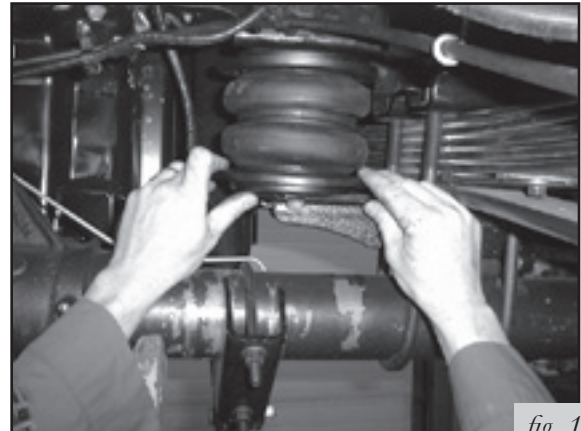

fig. 14
8. As in the previous step, move the bottom bracket inward and outward so as to align it with the bellows and the upper bracket (Fig. 14).